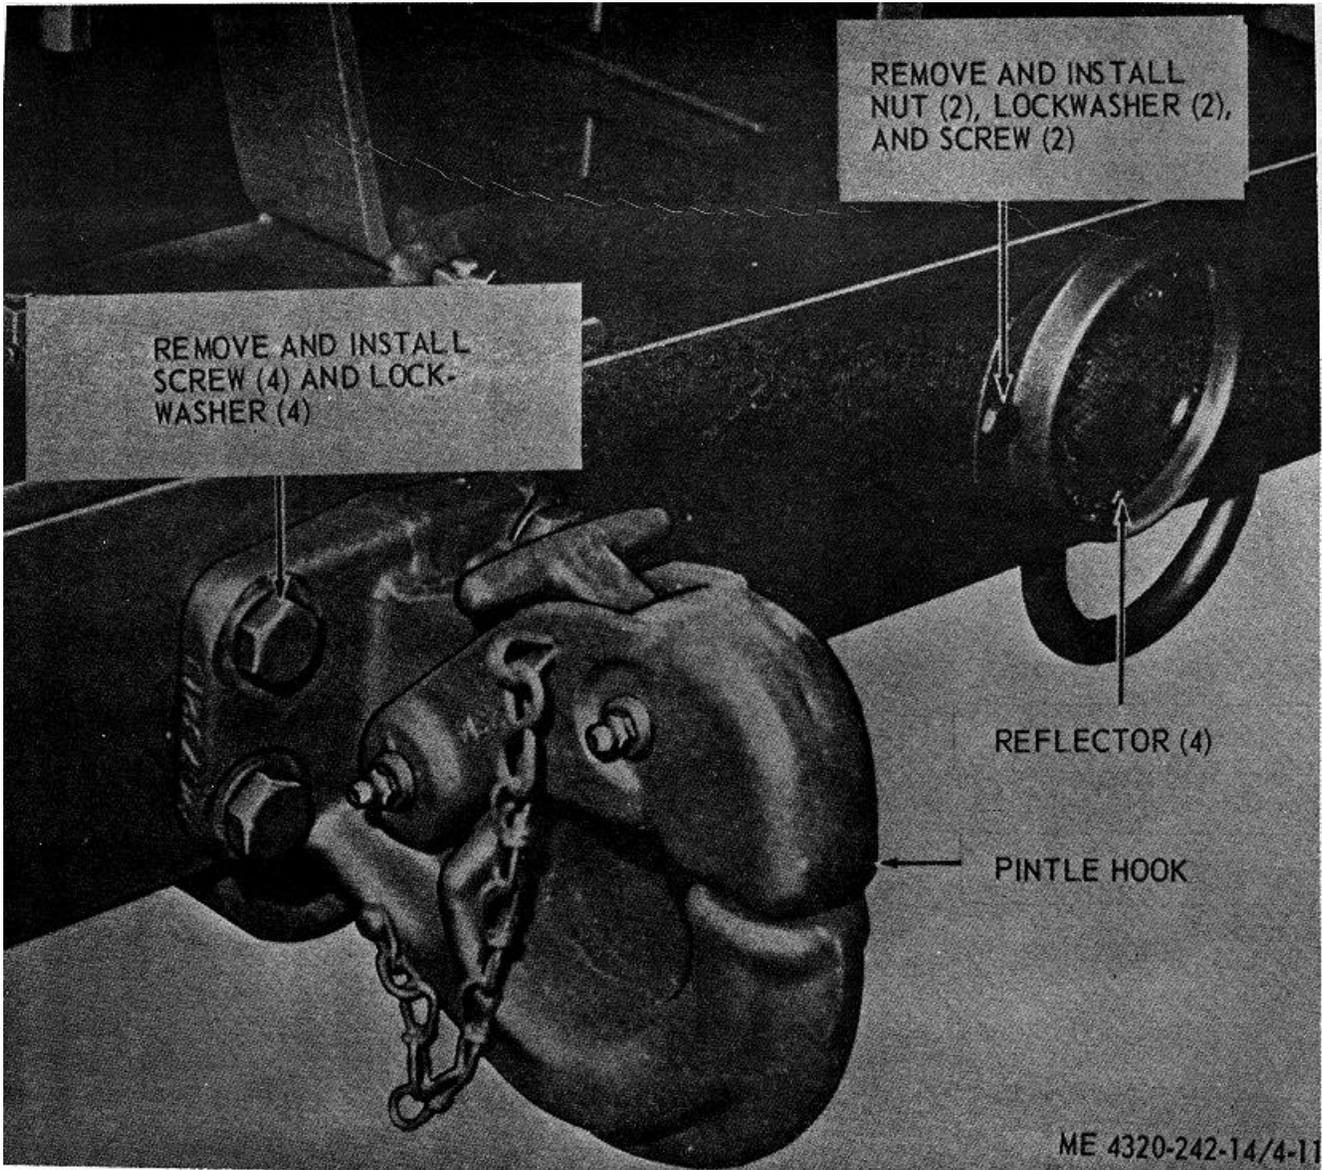

Figure 4-11. Pintle hook and reflectors, removal and installation.
a. *Removal.* Refer to figure 4-11 and remove the pintle hook.
c. *Installation.* Refer to figure 4-11 and install the pintle hook.
- a. *Removal.* Refer to figure 4-11 and remove damaged reflectors.
- c. *Installation.* Refer to figure 4-11 and install reflector.